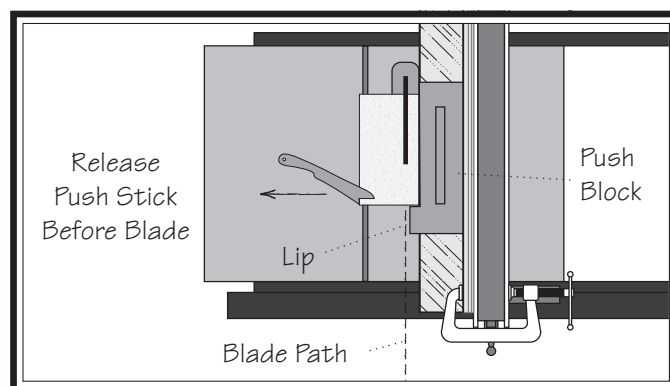

Figure 100. Ripping with push block.
6. Guide workpiece rest of way through cut with push block, as shown in **Figure 100**.